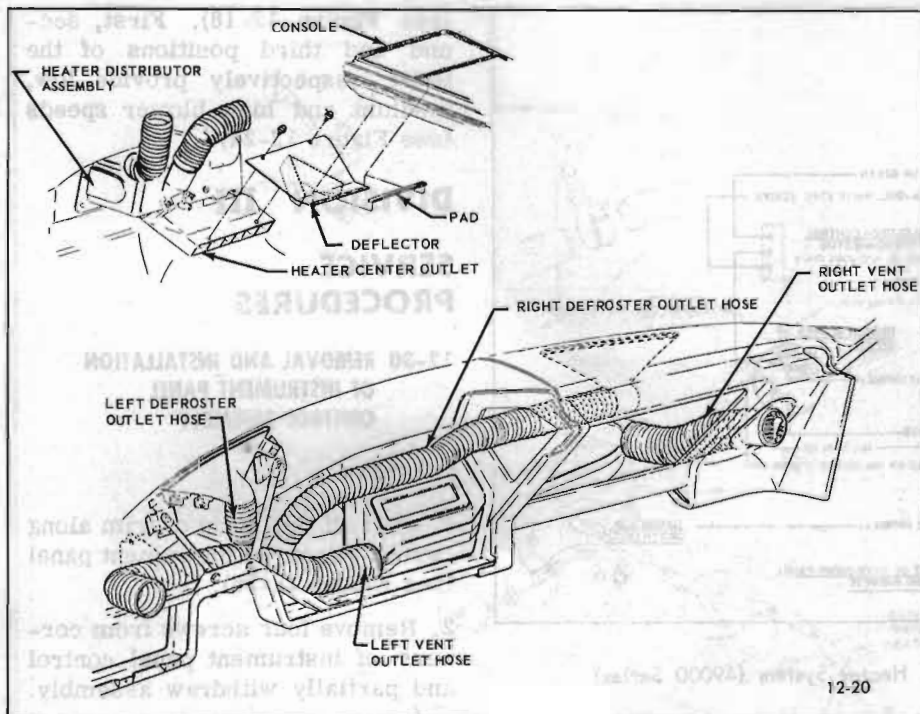

Figure 12-26—Installation of Air Hoses - 49000 Series
2. Disconnect left vent outlet hose and both defroster hoses from vent distribution duct and heater distributor assembly (see Figure 12-26).
1. Disconnect both left and right vent outlet hoses (see Figure 12-26).